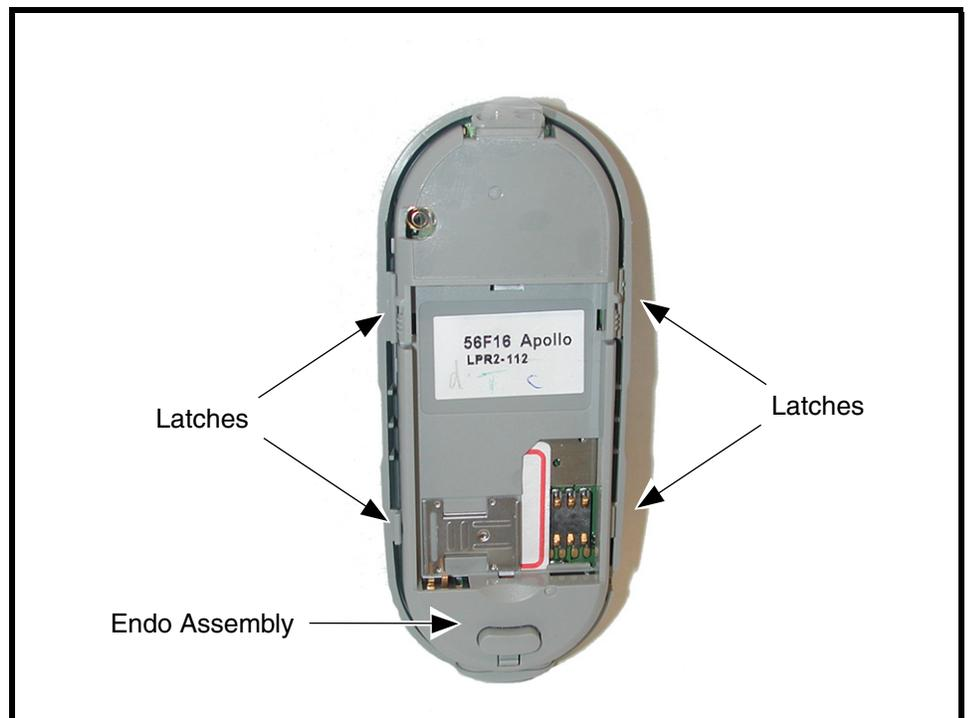

Figure 8. Removing the Endo Assembly
2. Use the disassembly tool to release the 4 latches located on the sides of the phone as shown in Figure 8.